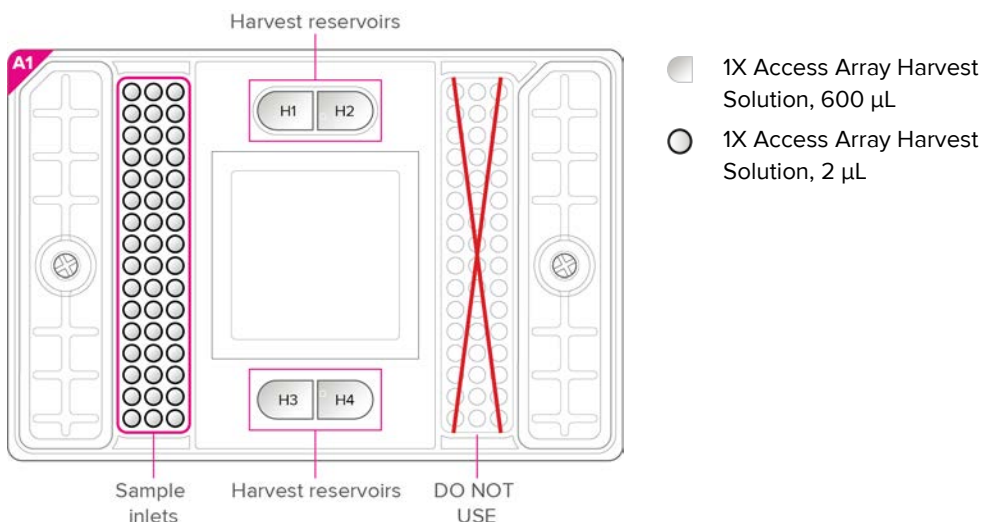

Figure 4. Pipetting map for harvesting the IFC
- 2** Remove the remaining fluids from the H1–H4 harvest reservoirs (see Figure 4).
- 4** Pipet 2  $\mu$ L of 1X Access Array Harvest Solution into each of the sample Inlets on the IFC (see Figure 4).